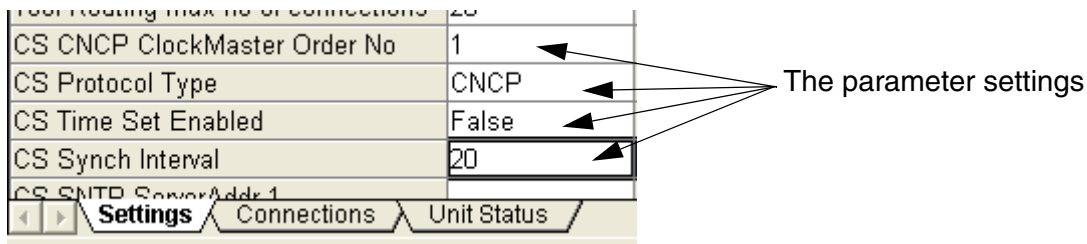

Figure 83. The parameter settings under the Settings tab in the hardware editor.
3. Set the following (four) parameters according to Figure 83. The setting *CS Time Set Enabled* can be set to `True` if local time source is used.